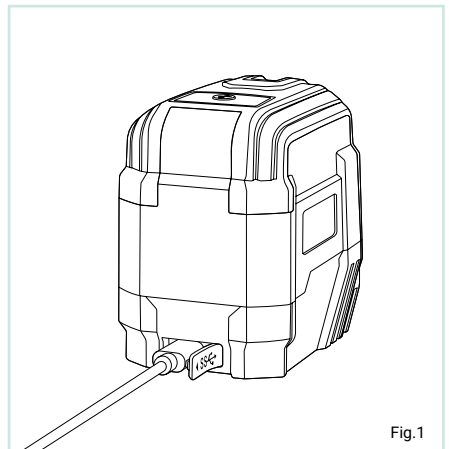

Fig.1
- Insert the charging cable (USB-C) into the charging port on the laser (Fig.1).